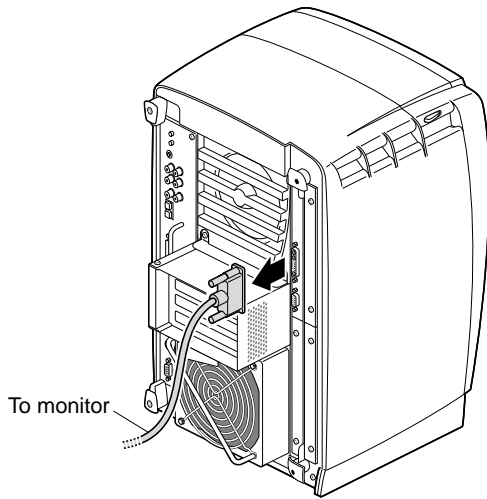

Figure 4 Removing the Monitor Cable
4. Remove all the cables from the XIO Quad-Module or XIO Tri-Module (only one is shown in Figure 4), then attach the wrist strap, as described in the next section.